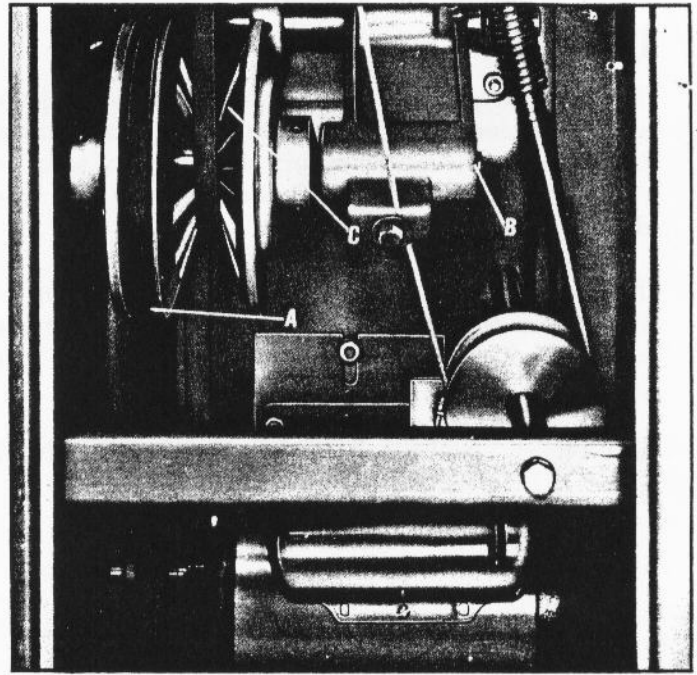

Fig. 11.
1. Remove the variable speed belt (A) Fig. 11.
2. Turn the variable speed control lever clockwise to raise the variable speed pulley bracket (B) Fig. 11.
3. Remove the spindle belt (C) Fig. 11, from the variable speed pulley.